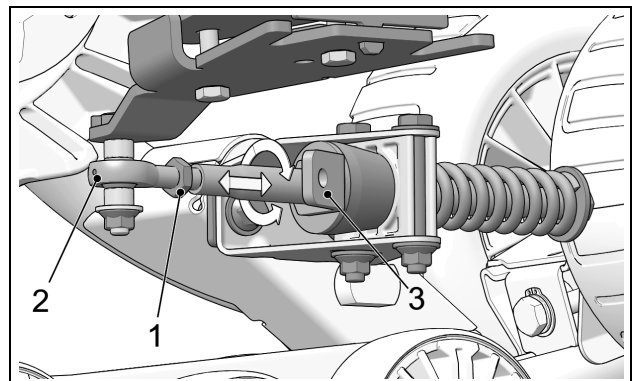

Figure 6
- Loosen jam nut (1). Adjust length of rod end (2) by rotating the steering limiter support plate (3) on the stabilizing arm. Use a 30 mm [1 3/16 in] wrench to rotate support plate to obtain a perfectly centered bubble in the level. Refer to Figure 6.